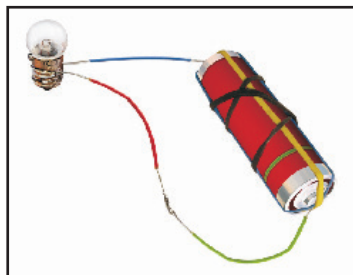

Fig 12.14
4. Complete the drawing shown in Fig 12.14 to indicate where the free ends of the two wires should be joined to make the bulb glow.
7. Would the bulb glow in the circuit shown in Fig. 12.14?